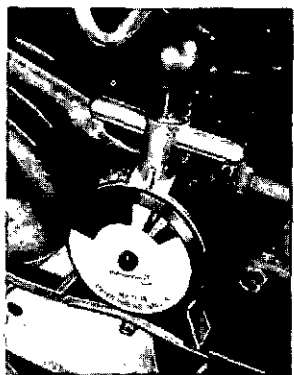

FIGURE 36. PROPER BELT TENSION
- Proper belt tension (Figure 36). If the alternator fan can be turned by hand, the belt is too loose.